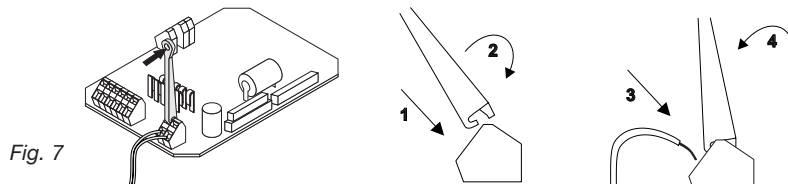

Fig. 7
- Open the contact terminals for the voltage supply with the terminal lever provided (Fig. 7: **1 + 2**)